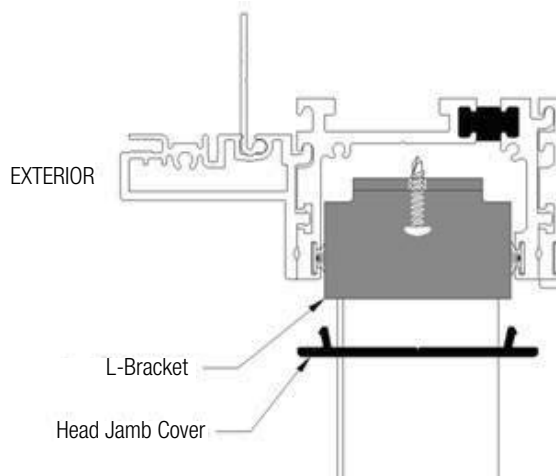

FIG. 23
- E) Install the side jamb track caps on the exterior of the locking side jamb by fitting it to the head jamb and gently insert it in place. (Fig. 23)